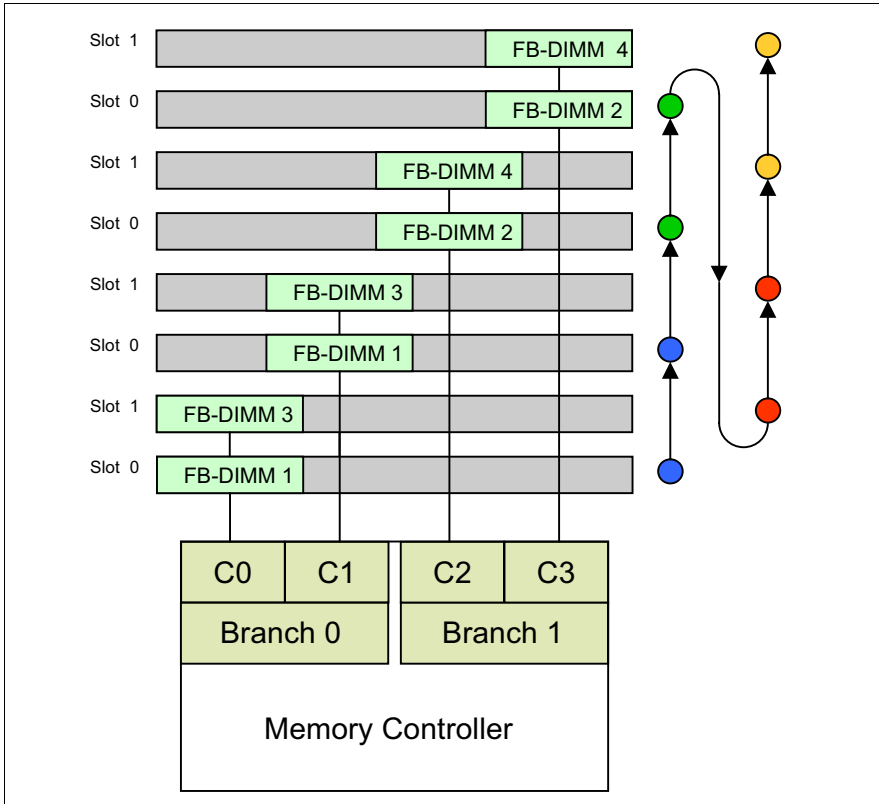

Figure 14: Fitting sequence
- The arrow in figure 14 indicates the order in which the DIMM slots must be filled. The same color means the same capacity, speed and organization of the DIMM modules.